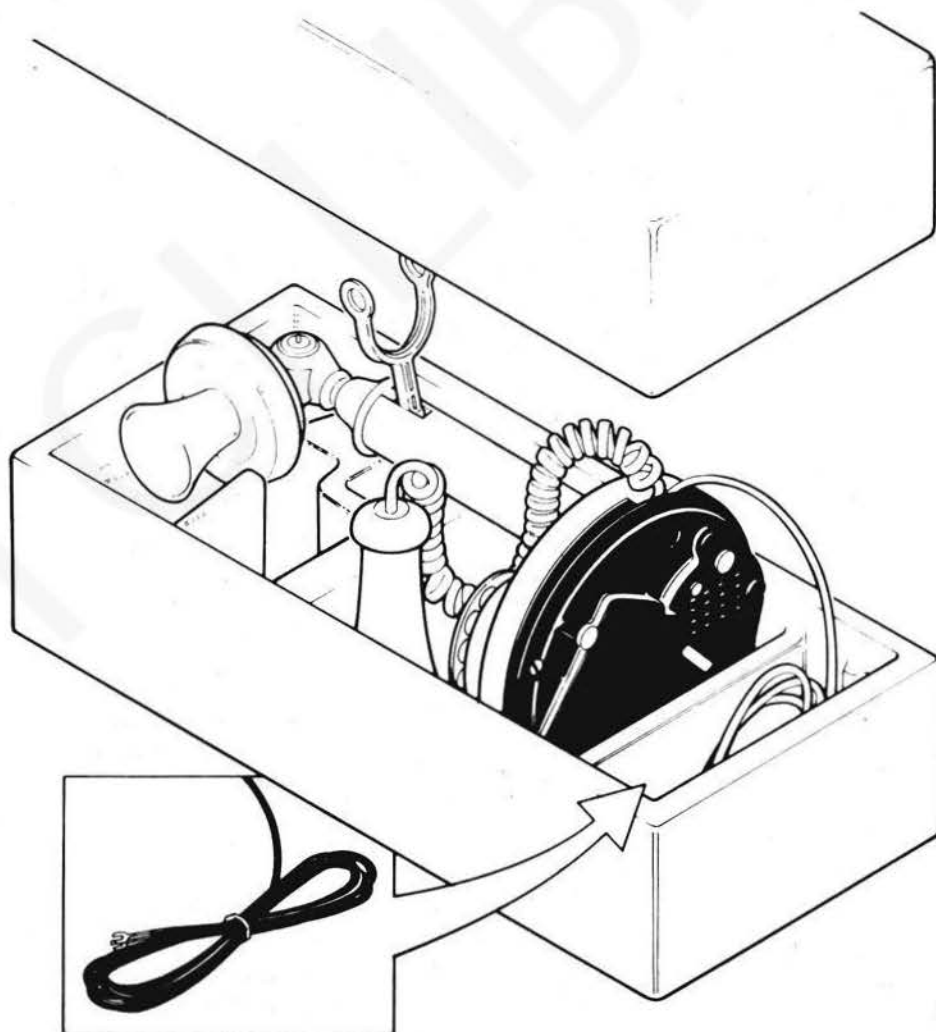

Fig. 9 — Candlestick Telephone Set Packing Instructions
- Gather the mounting cord as shown in Fig. 9, place the cord in a plastic bag, and secure with an elastic band.
- Position the receiver in the insert as shown in Fig. 9. Arrange the cord so that it rests between the receiver and the telephone set.